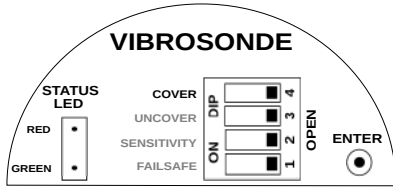

Figure 12: Saving Cover Delay
4. Delay is entered, but not saved. To save and test the Cover Delay, set the COVER switch back to OPEN position as shown in Figure 12. The STATUS LED will come back to its original position.